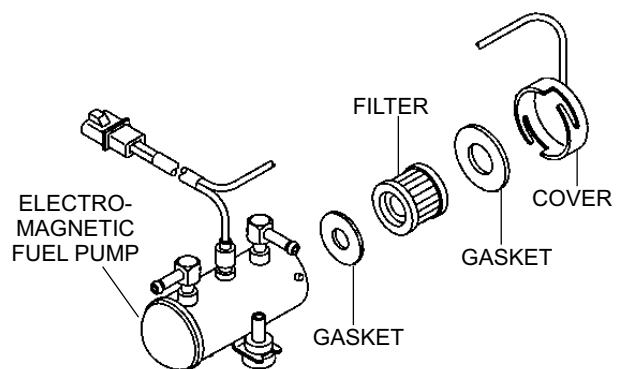

Figure 65. Electromagnetic Fuel Pump
The filter inside the **electromagnetic fuel pump** (Figure 65) is either a paper type or steel mesh type depending on the fuel pump type. Clean or replace the fuel pump filter as follows:
4. Remove the **filter** and **gaskets** (Figure 65) from the fuel pump housing.